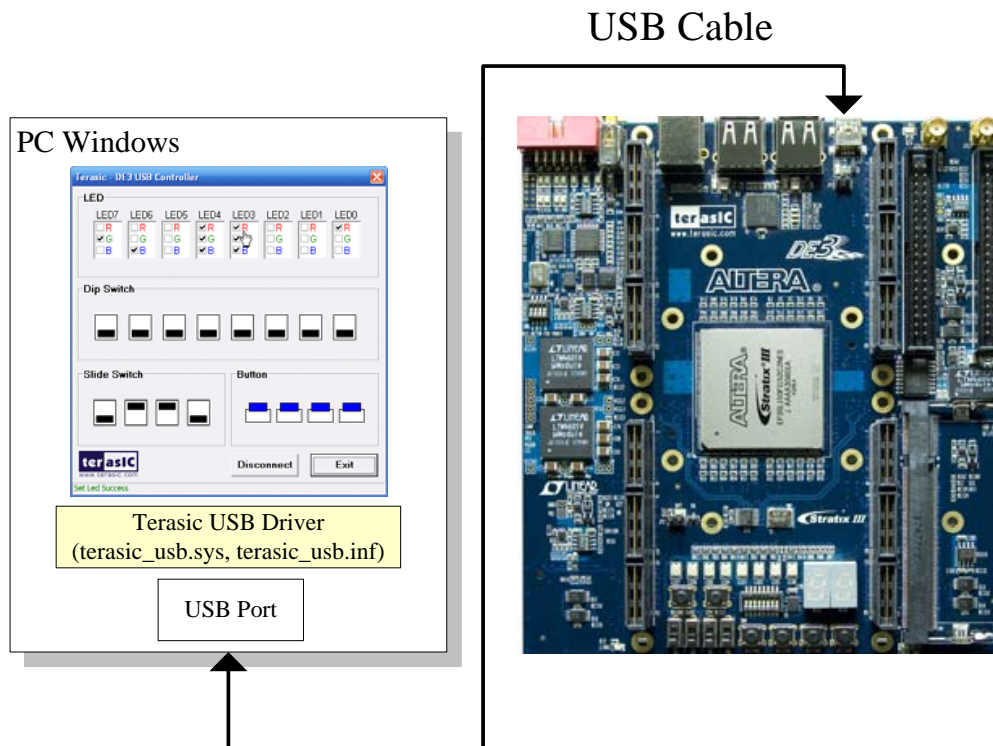

Figure 5.10. Connect USB ports for the USB-Device Demonstration.
- Connect USB cable from a host computer to the mini-AB port in DE3, as shown in Figure 5.10.